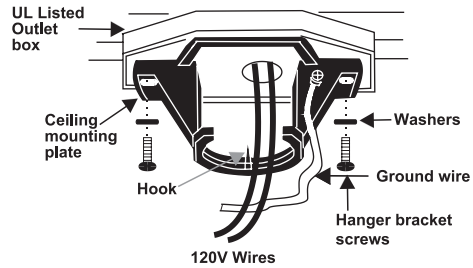

Figure 5
Secure the hanger bracket to the ceiling outlet box using screws and washers included with mounting hardware. (Fig. 5)
2. Pass the 120-volt supply wires through the center hole in the ceiling hanger bracket as shown in Fig. 5.